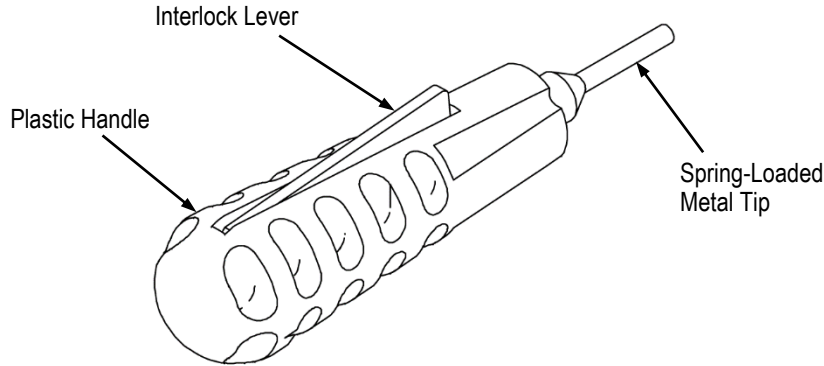

Figure 1
Extraction Tool 318813-1, shown in Figure 1, is designed to remove the Size 8 straight and right-angle coaxial contacts and AMPLIMITE* power contacts and .125 POWERBAND* contacts listed in Figure 2 from connector housings. Read these instructions thoroughly before attempting to remove any contacts. Tool 318813-3 is designed for the *Extended* POWERBAND Pin contacts.
2. DESCRIPTION (Figure 1)